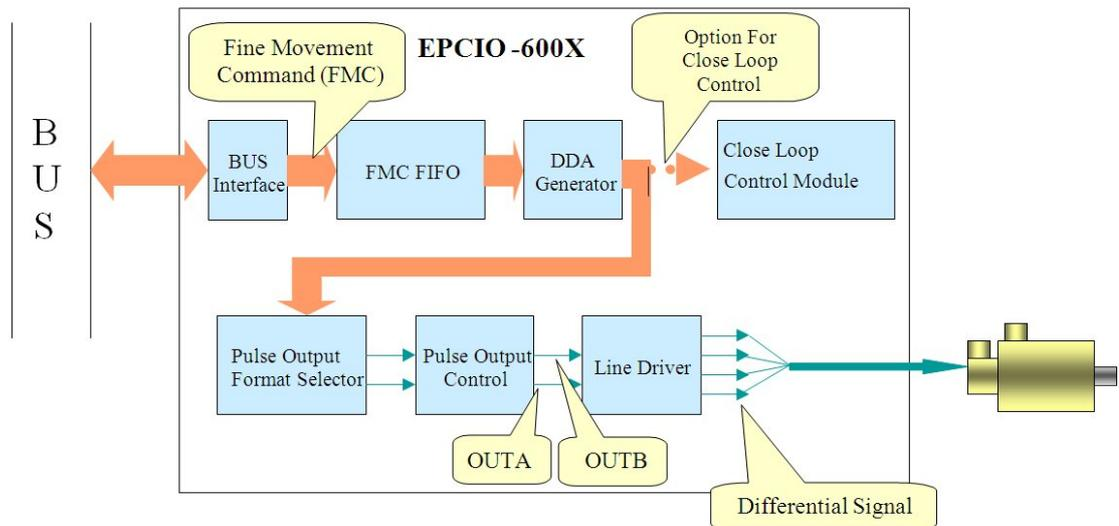

Fig. 2-1
■ Pulse output control (Refer to Fig. 2-1, assuming that output pulse are OutA and OutB)